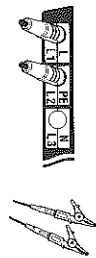

Fig. 9-1
2. Insert the Test Leads into the instrument. (Fig. 9-1)